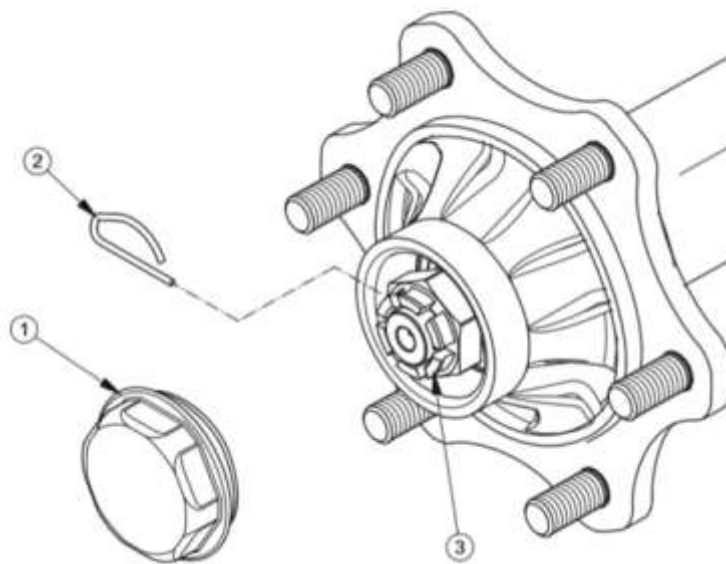

Figure 41 Adjusting the running axle bearings
Remove the hub cap (1), see Figure 41